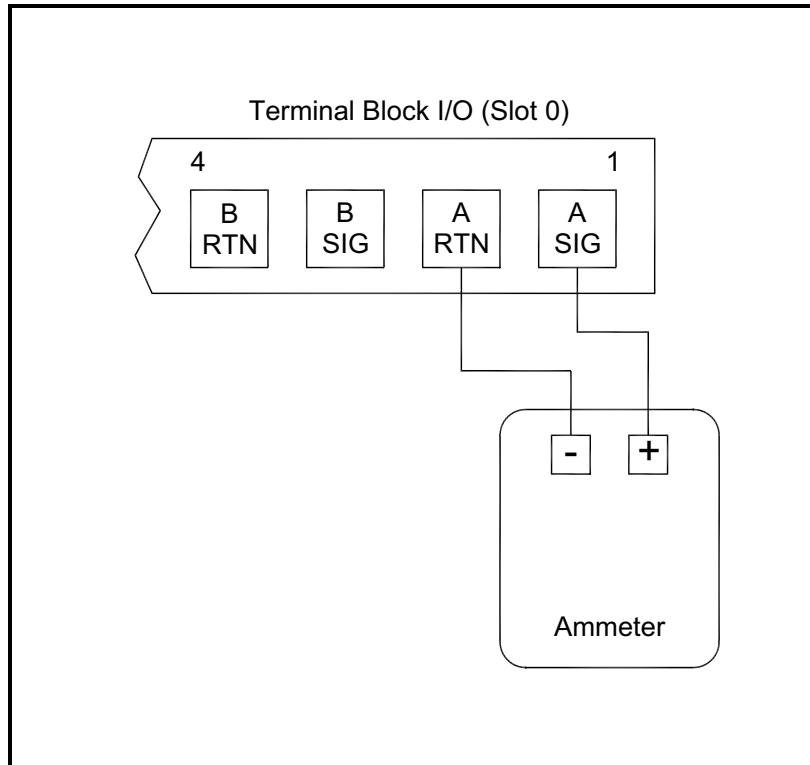
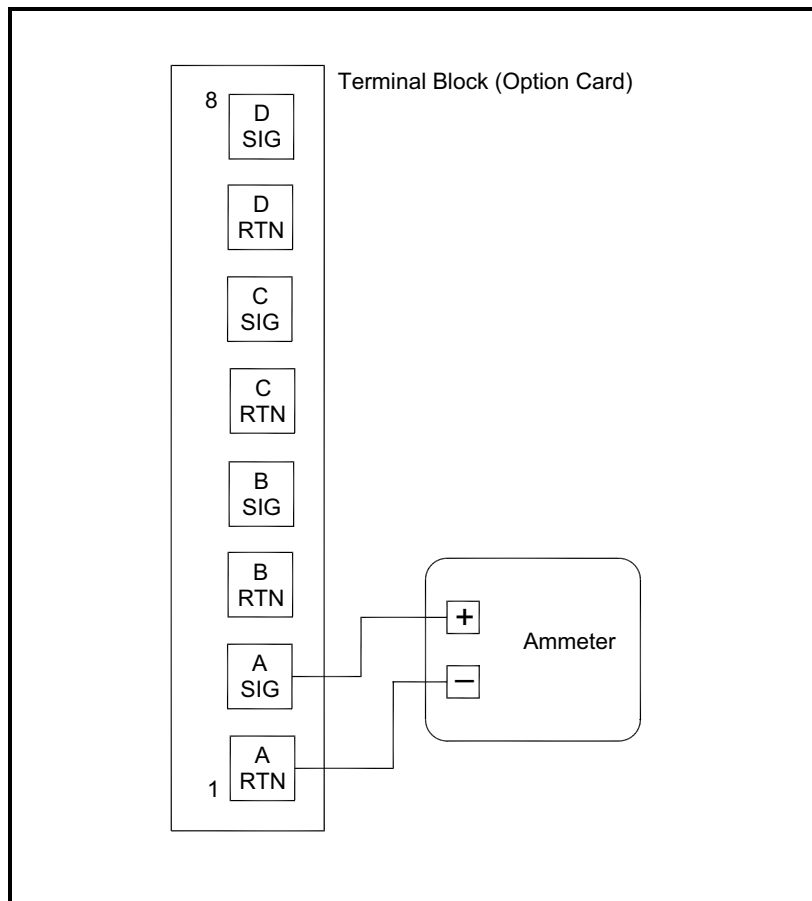

Figure 1: Ammeter Connection (Output A)
Figure 2: Ammeter Connection (Output A)
Prepare for the calibration procedure by connecting an ammeter to analog output A of **Slot 0**, as shown in Figure 1 below. Refer to the menu map in Figure 6 on page 13.
**IMPORTANT:** The procedure for calibrating all outputs is the same. However, when calibrating a different output, be sure to reconnect the ammeter to the appropriate pins on terminal block I/O. See Figure 1 on page 2 or Figure 2 above for the correct pin numbers.